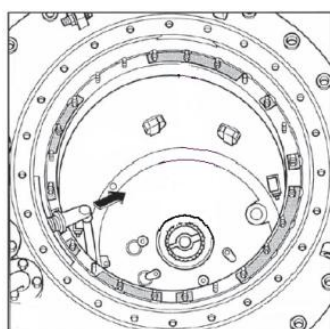

Figure 19
- (5) Remove the suction pipe and pull out the connecting elbow inserted into the head flange from the inside (Fig. 19), taking care not to damage the O-ring on the elbow.